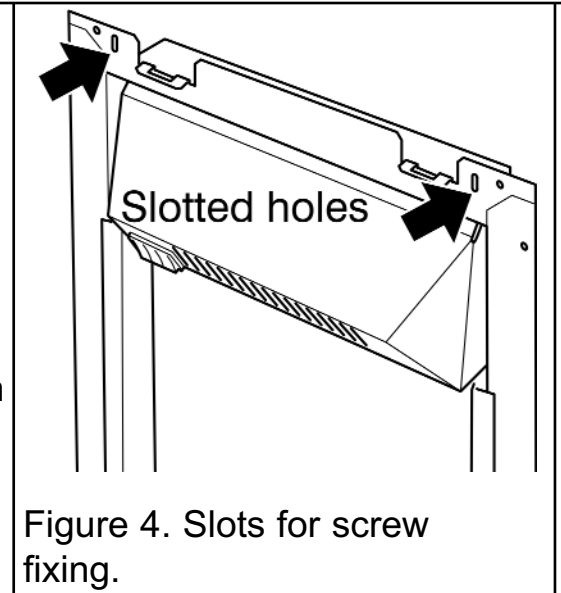

Figure 4. Slots for screw fixing.
2. There are two slotted holes in the top of the heater (See figure 4). Mark through the slotted holes so that their position is clear when the heater is removed.
6. Screw and secure the heater with two woodscrews (See figure 4).